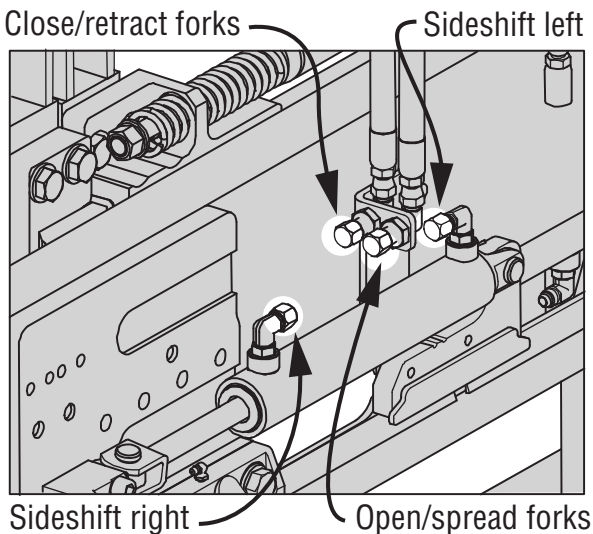
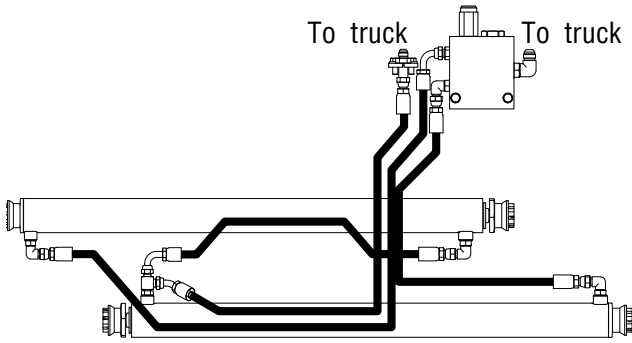

Figure 4-6, Hydraulic Connections
Figure 4-7, Fork Positioning
1. Install the lines from the truck's hydraulics to the hydraulics of the attachment. See (Figure 4-6 and Figure 4-7).